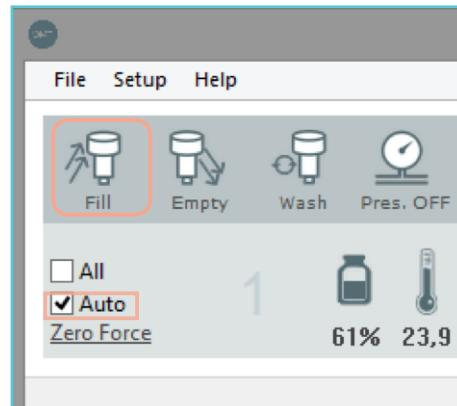

Figure 22: select Auto before starting the Fill Calibration.
- **Fill Calibration:** The Fill Calibration is needed for the Fill feature to work with the Auto selected (figure 22). This calibration is needed for being able to enter different fill volumes e.g. 15ml that will be filled into a given chamber when the Fill button is pressed.